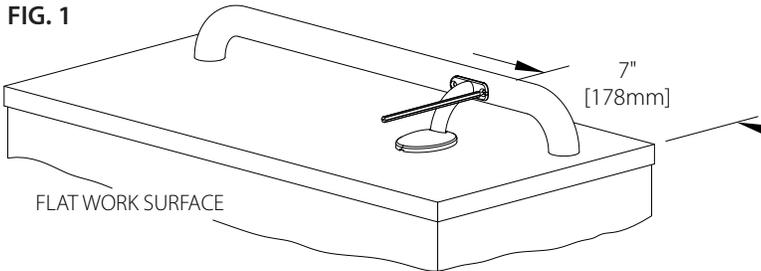

FIG. 2
2. Attach the brackets to the rail using two #8-x 3/4" Phillips Pan-head self-drilling screws per bracket. Use a #2 Driver. CAUTION: do not over tighten screws. See **Fig. 2**.